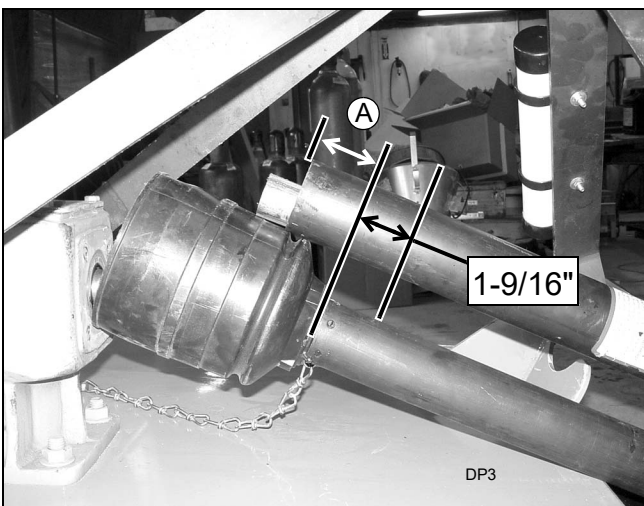

Figure 5. Determine Shield Length
4. Measure from end of the upper shield to the base of the bell on the lower shield (A). Add 1-9/16" to dimension (A). See Figure 5.